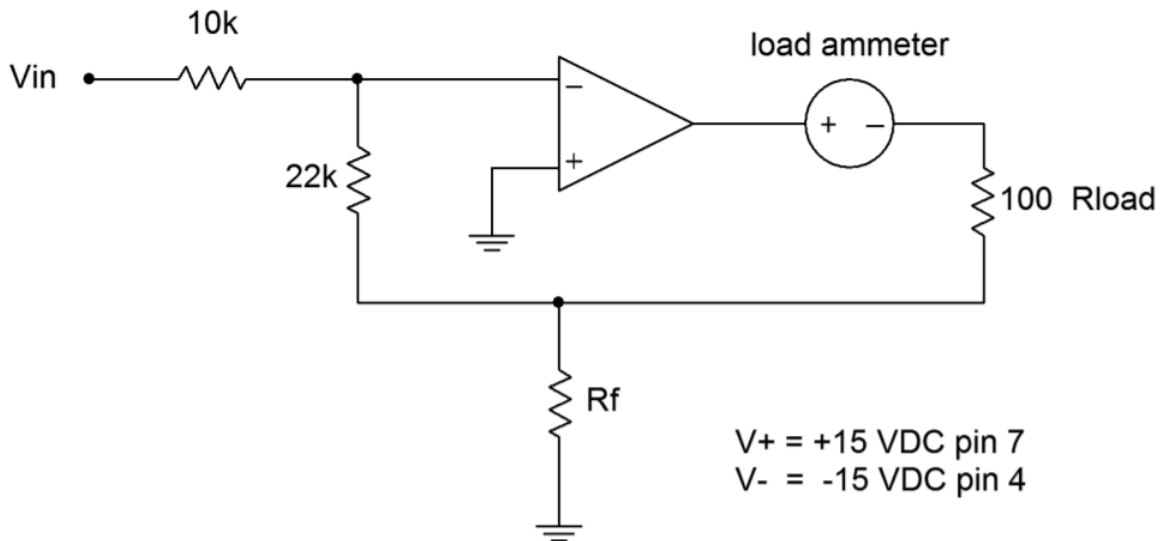

Figure 7.5.2
7. The gain of the current amplifier can be determined from R_i and R_f . Based on these values, calculate the expected A_i and I_{load} for the circuit of Figure 7.5.2, and record them in Table 7.7.3.
8. Assemble the circuit of Figure 7.5.2 using $22\text{k}\Omega$ for R_f .
12. Utilizing the circuit of Figure 7.5.2, suppose that all of the results found in Table 7.7.3 are approximately 10 times smaller than they should be. Consider and test at least two plausible causes for this scenario, and include the results in the technical report.
3. What is the effect as R_f is decreased in the circuit of Figure 7.5.2?